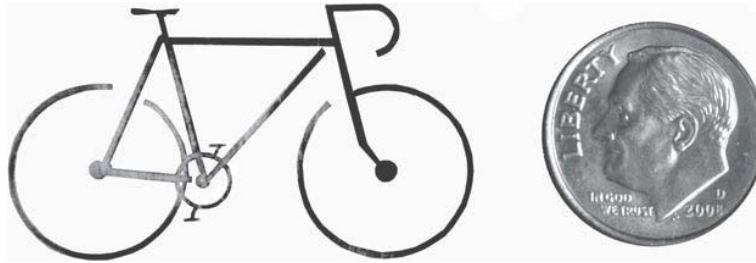

FIGURE 23-8 Detailed small part not much larger than a dime made with a laser. Larry Jeffus
- Narrow heat-affected zone—Little or no heating of the surrounding material is observed. It is possible to make very close parallel cuts without damaging the strip that is cut out, Figure 23-8.